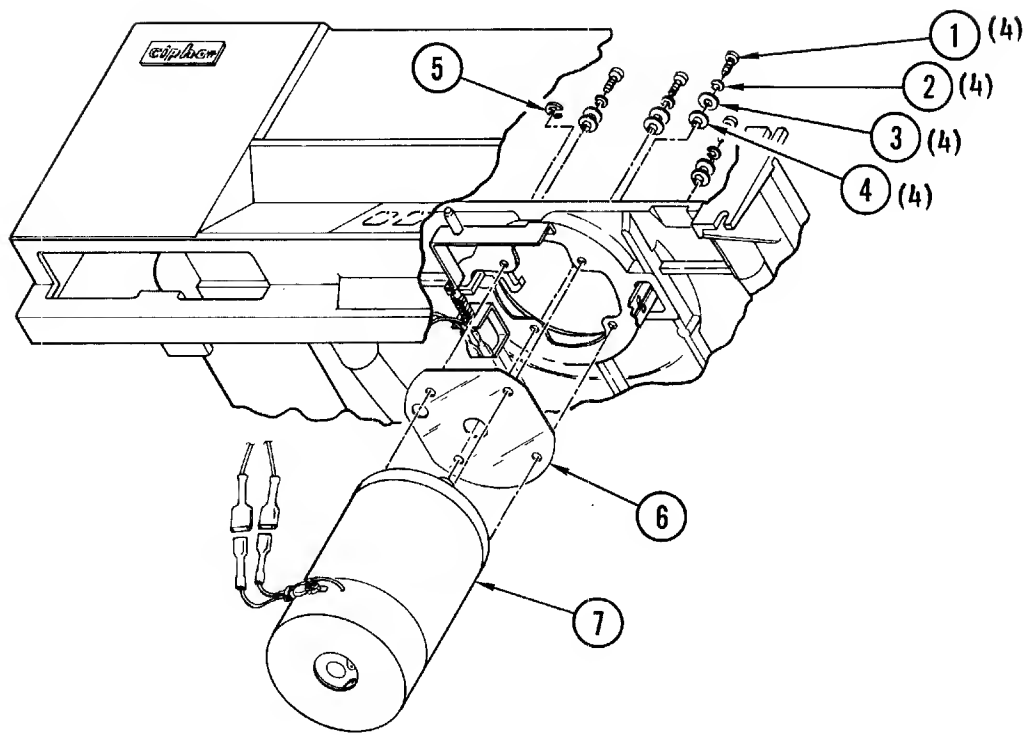

Figure 4-28. Supply Motor Assembly
4-44. Removal and Replacement (Figure 4-28). Place transport in service access position, in accordance with instructions in paragraph 4-3, and remove and replace the supply motor assembly as follows:
- d. Remove bell crank retaining ring (5, Figure 4-28).
- e. Remove screw (1) lockwasher (2), flatwasher (3), shoulderwasher (4), and insulator (6), holding motor (7) as last screw is being removed.
- f. Lower motor (7) from top plate, simultaneously slipping bellcrank off post on top of motor.